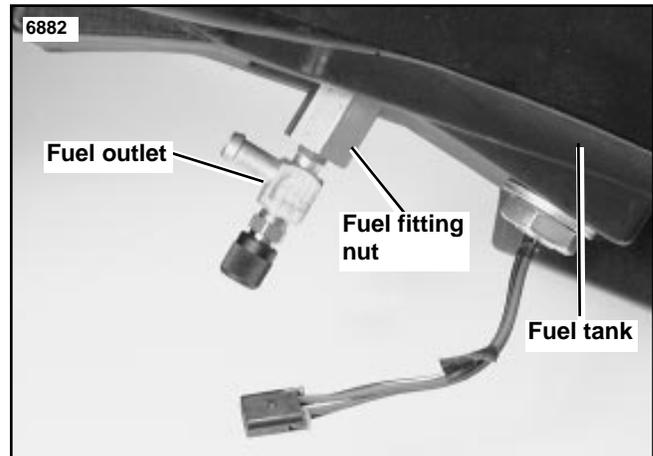

Figure 1. Fuel Outlet Fitting, Original Setup
9. See Figure 1. Rotate the fuel outlet approximately 180° by tightening the fuel outlet into the fuel fitting nut, while securely holding the nut. The fitting should point toward the rear of the motorcycle (opposite of the way shown).